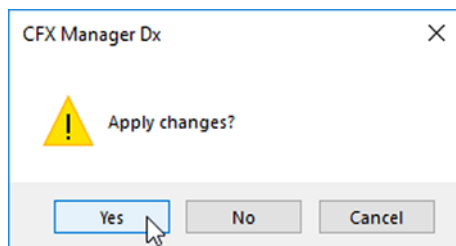

Figure 32: Confirmation dialog
- Confirm to apply the changes by clicking **Yes** (see Figure 32).